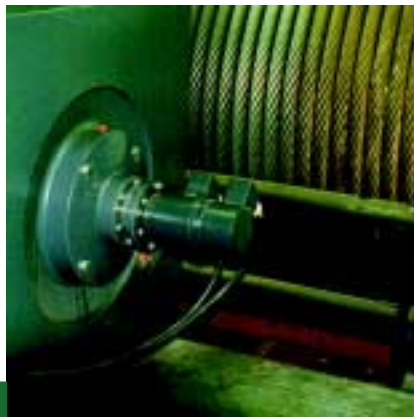

Figure 6: Twin encoder, the POG 9 G on a 450 kW drive as example.
- Two **axially displaced scanning systems** with *separate* incremental disks arranged axially one behind the other, the number of slots can be different: **twin encoders** (➔ Figure 6). (➔ *Combinations Expand the Range of Applications* on page 23).